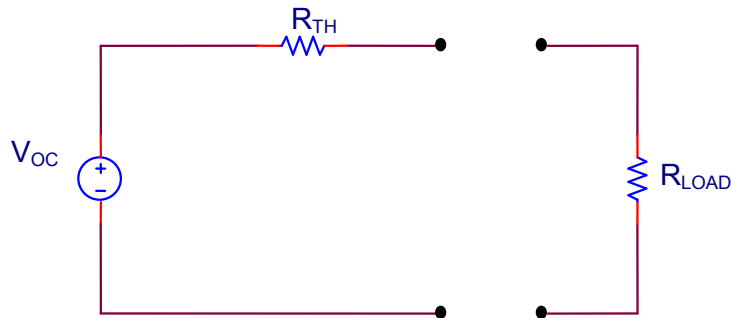
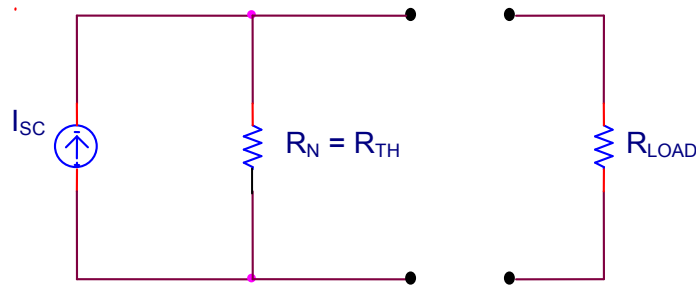

Figure 5.1 – Thevenin Circuit
Figure 5.2 – Norton Circuit
- d) Draw the Thevenin equivalent circuit by placing the load resistor across the open-loop terminal (Figure 5.1).
The current source is denoted by I_{SC} (short circuit current), and the resistor by R_N (Norton resistor). The value of R_N is the same as R_{TH} . The objective is to evaluate I_{SC} and R_N . The simplest way is to convert the voltage source of Figure 5.1 to the current source of Figure 5.2. This indicates:
- d) Draw the Norton equivalent circuit by placing the load across the open-loop terminals (Figure 5.2).